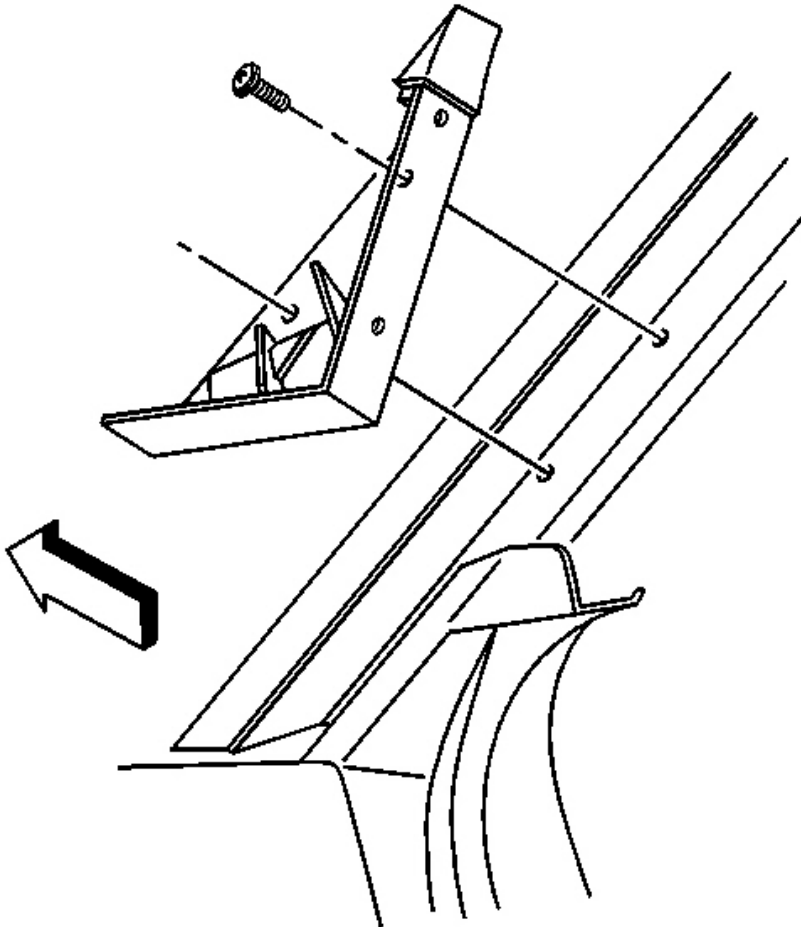

Fig. 15: Filler Panel To Windshield Pillar
3. Install the screws attaching the side window filler panel. (**fig. 15**)